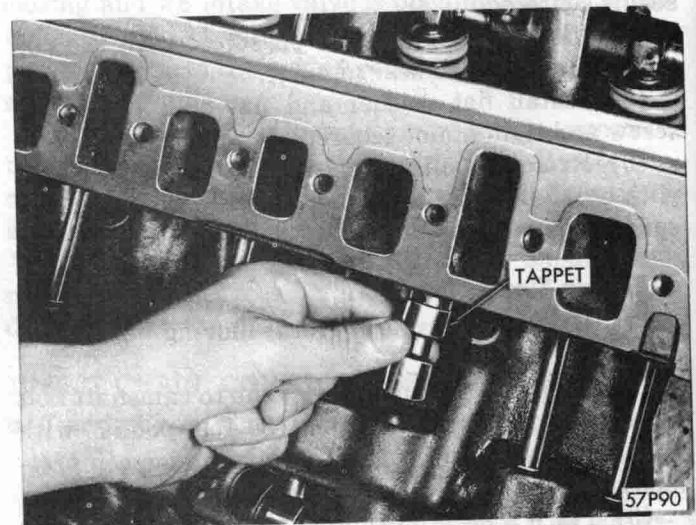

Fig. 9—Removing Mechanical Tappet
(1) Remove mechanical tappets from the tappet bore (Fig. 9). Place push rods and tappets in their respective places in Tool C-3068 since each part should be replaced in its original location.